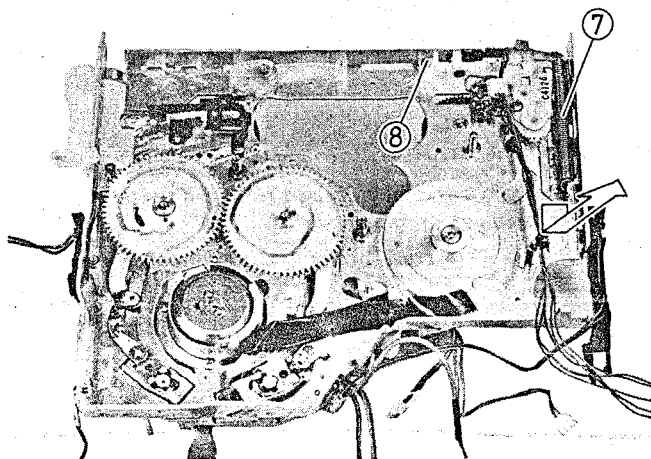

Fig. 2-118 Up Slider Removal
Up Slider Removal (Fig. 2-118)
7. Remove the up slider spring. (See Fig. 2-118)
8. Remove one (1) screw holding the lock holder.